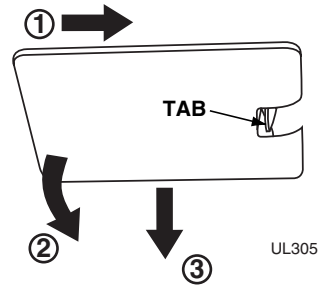

Figure 22
1. Remove the light housing cover by sliding the cover toward the tab, swinging the end opposite the tab down and pulling down and away (Figure 22).